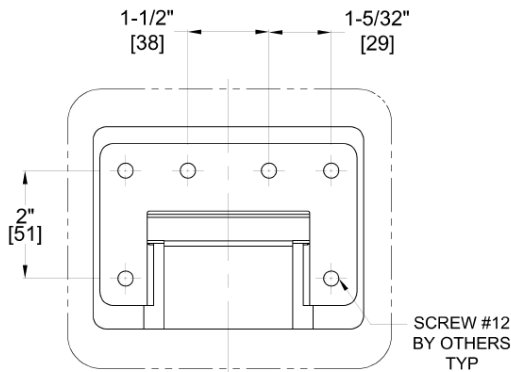
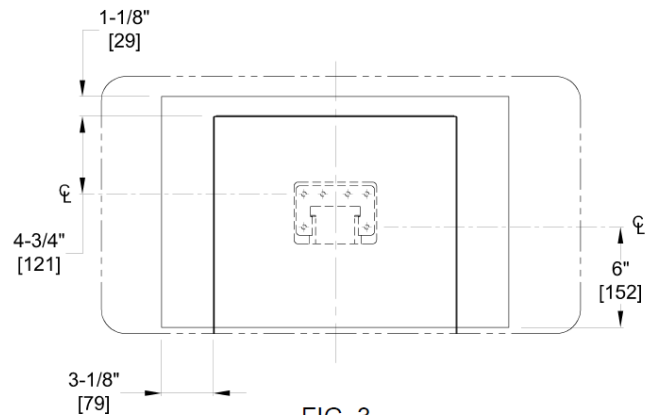
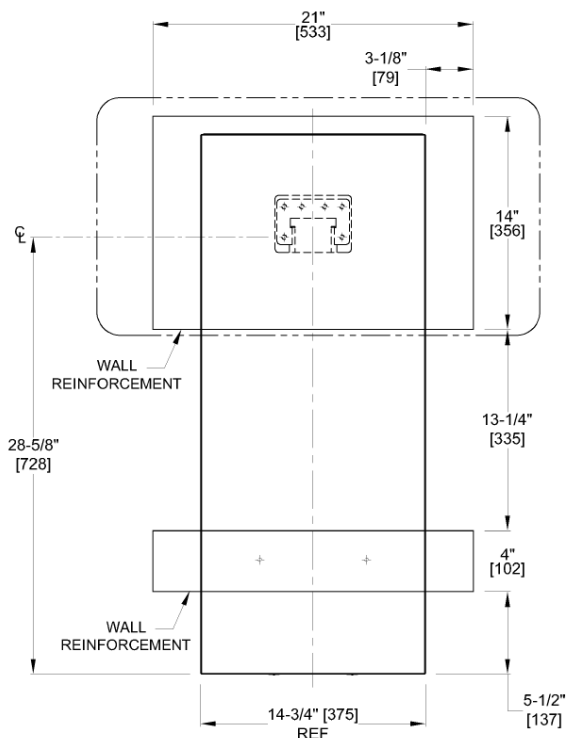
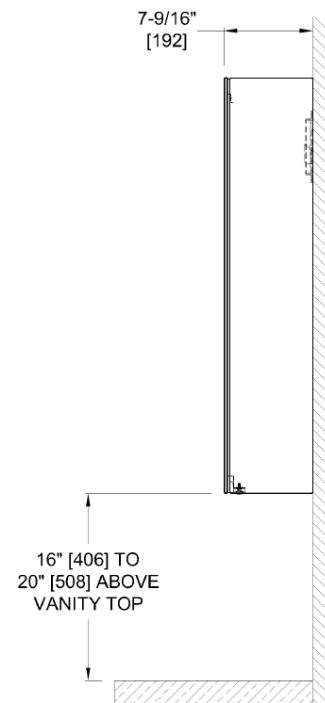

FIG. 1
FIG. 3
FIG. 2
FIG. 4
Appropriate wall reinforcement must be prepared prior to initiating the Velare™ BTM System installation. Install the mounting plate on wall using six (6) № 12 self-threading, pan-head screws (by others) ( Fig. 1) into appropriate anchoring and wall reinforcements (Fig. 2). Hang cabinet on wall mounting hanger hook (Fig. 3). Suggested mounting height is to position bottom of module 406 to 508mm above vanity top so bottom aligns with Model №'s 0661-X or 0663-X on either side of Filler Module (Fig. 4). Install two (2) №12 self-tapping locking screws (by others) into appropriate anchoring to prevent unit from being lifted off hanger hooks (Fig. 2).